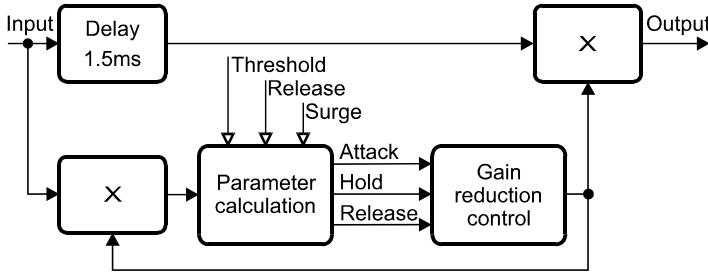

Figure 15.2 Pre-viewing digital peak-limiter
**Pre-viewing peak-limiter.** Digital signal-processing also allows extended possibilities for the limiter-concept. The figure 15.2 shows the principle of the DSC28's peak-limiter. Here a multiplication-block corresponds to the VCA of an analog limiter. The peak-limiters of the DSC28 work with "pre-viewing" signal-analysis. This allows an "in-advance" registration of impending threshold-excess values and the reduction of the level over a set period with optimally adjusted time-constants. In this process the peak is attenuated to the exact threshold-level, a controlled overshoot of the value is allowed. This procedure allows the limiter threshold to be set at the exact value of the connected amplifiers/loudspeakers. Even sudden jumps in signal-level no longer cause overloading. For strong transient-impulses the effect of pre-masking can additionally be utilised to ensure that the control-time before the impulse is not perceptible. A subsequent hold-time prevents level-oscillations in the directly subsequent signal-paths. The pre-viewing signal-analysis is enabled by means of a 1.5ms delay within the signal path. The control of the gain-reduction defines in which operating phase the limiter is in: attack-, hold- or release-phase. An attack-operation is started when the input-level exceeds the limiter-threshold. The threshold is an element in the digital/analog gain-structure of the amplifier-adjustment and as such, an integral part of a preset, not adjustable by the user. Depending on the degree of threshold-excess, the resulting action is the amplification-reduction over a fixed time-period with a time-constant adjusted to the peak in dB/s. Should a further peak emerge during the attack-operation, the time-constant is re-calculated. The subsequent hold-phase of 20ms is re-started, should during this phase, the input-signal again rise to within 1dB of the limiter-threshold. Is neither limiter- nor hold-threshold reached, the amplification is restored to its original value dependant of the release-time-constant. The release-time-constant in dB/s is the only user-adjustable limiter parameter.